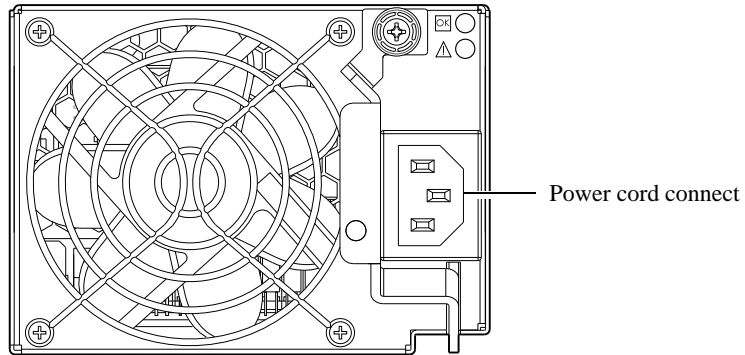
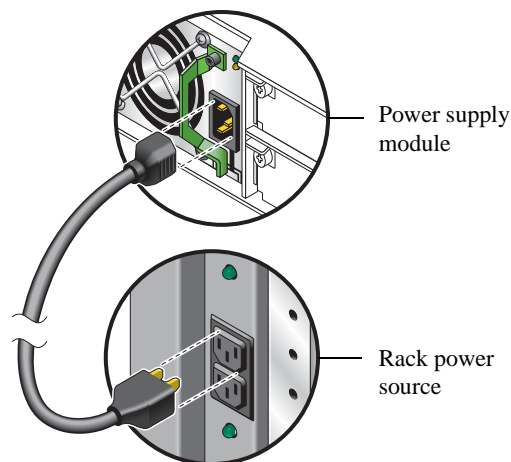
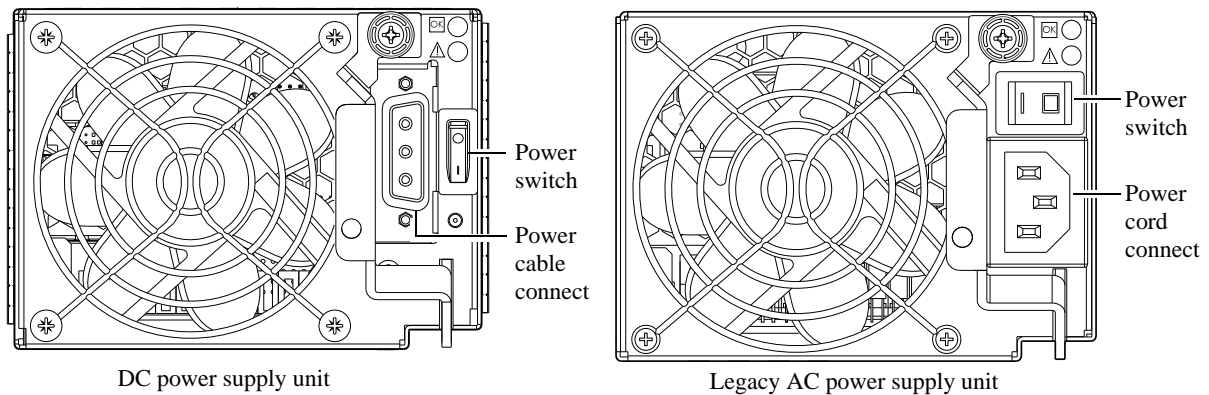

Figure 12 AC PSU
Figure 13 AC power cord
Figure 14 DC and AC PSUs with power switch
1. Plug the power cord into the power cord connector on the back of the drive enclosure. Plug the other end of the power cord into the rack power source (see Figure 12 and Figure 13). Wait several seconds to allow the disks to spin up.
2. Plug the power cord into the power cord connector on the back of the controller enclosure. Plug the other end of the power cord into the rack power source (see Figure 12 and Figure 13).
See Figure 15 and the illustration at left (in Figure 14) when performing the following steps:
Obtain two suitable AC power cords: one for each AC power supply that will connect to a separate power source. See Figure 13 on page 29 and the illustration at right in Figure 14 when performing the following steps: